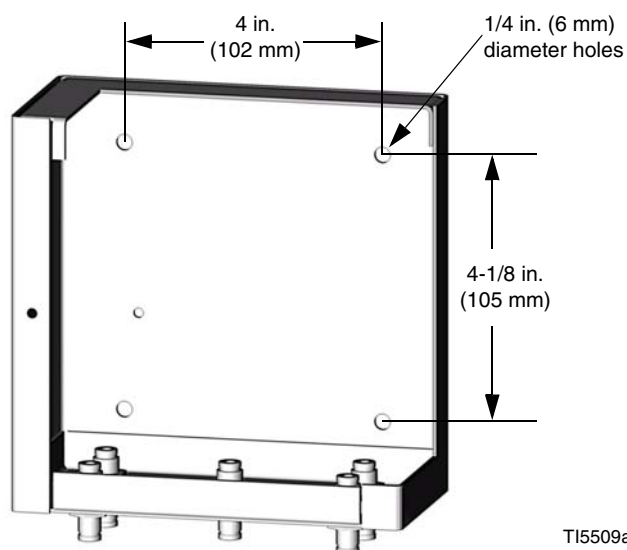

FIG. 1. Mount Control Box
1. Locate the auto flush control box near the spray area. If your installation requires more tubing (4) than supplied, ensure that it is solvent compatible.
2. Mark the wall at a convenient height for the operator, using the mounting holes on the back of the control box as a template. See FIG. 1. Ensure that the box is level.